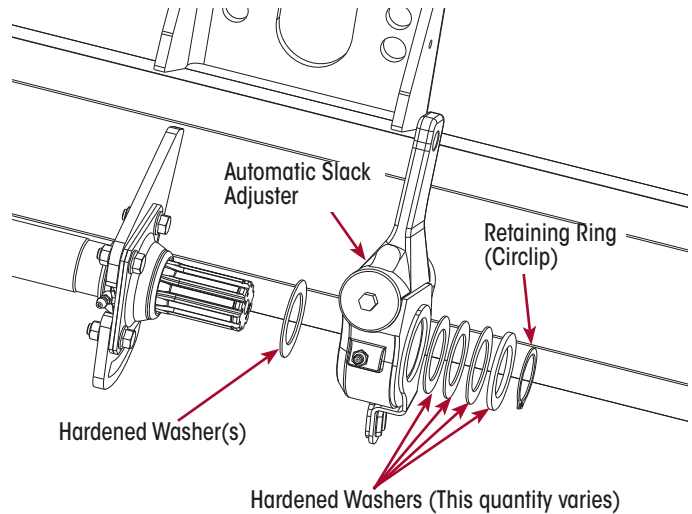

Figure 94: Slack Adjuster Washer Installation
2. Fit hardened washer(s) to S-cam spine end. A minimum of one washer is required here but more may be required. Refer Figure 94.